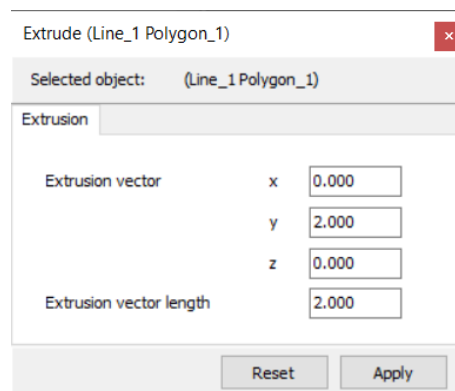

Figure 96: Extrusion window
5.  Click the **Extrude object** button. Assign a value of 2 to the y-component of the extrusion vector as shown Figure 96 (on page 121) and click **Apply**.